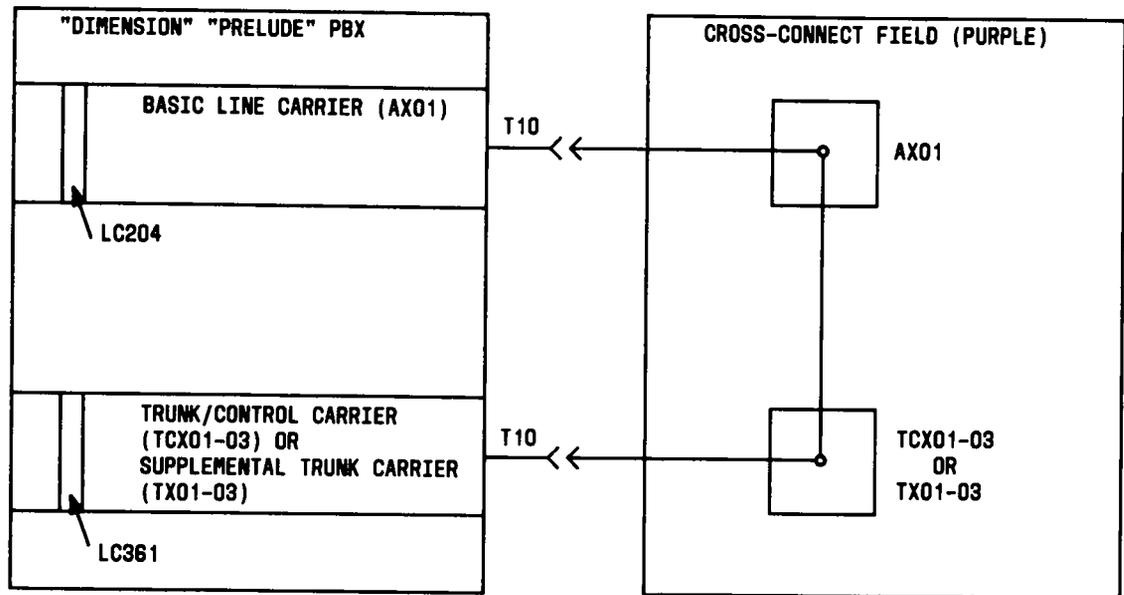

Fig. 57—Audible Tone Connections for LC361 Circuit Pack
6.99 Ringing and ringback control circuitry is provided on the LC361. Ringing is obtained from the ringing generator via carrier backplane wiring. Ringback tone is obtained from the LC204 tone circuit via the cross-connect field (Fig. 57).